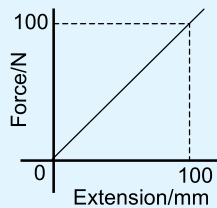

Figure 16.11
8. A force/extension graph for a spring is shown in Figure 16.11. Which of the following statements is false?